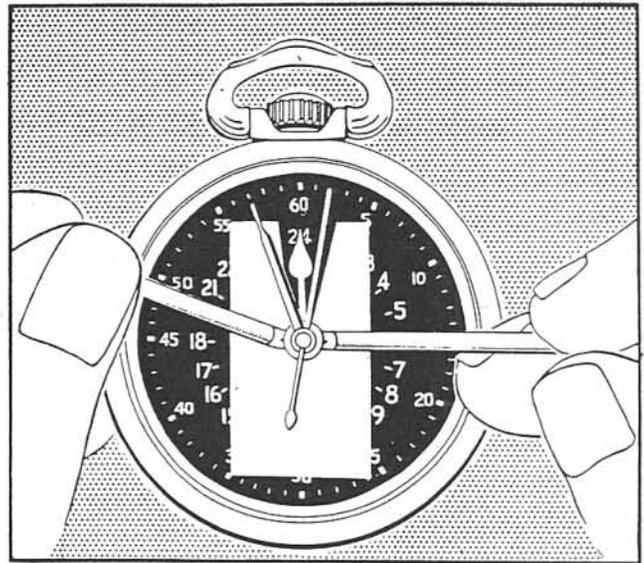

Figure 8—Removing Hands
(1) BEZEL.—Removal of the bezel which is screwed to the case ring is accomplished by turning the edge counterclockwise with the tips of the fingers. The crystal is a snap fit in the bezel and if its removal is required it can be pushed out with the fingers.
(2) BACK.—Removal of the back is accomplished by unscrewing in the same way as the bezel.
(3) HANDS.—Place the watch movement in a support, in a dial-up position. Use the hand removers (figure 8) to pry off the center seconds hand, the minute hand, and the hour hand from their supports. Insert under the hour hand and around the center stem a piece of paper or used photographic film that has a V opening cut to fit. This will protect the face of the dial from